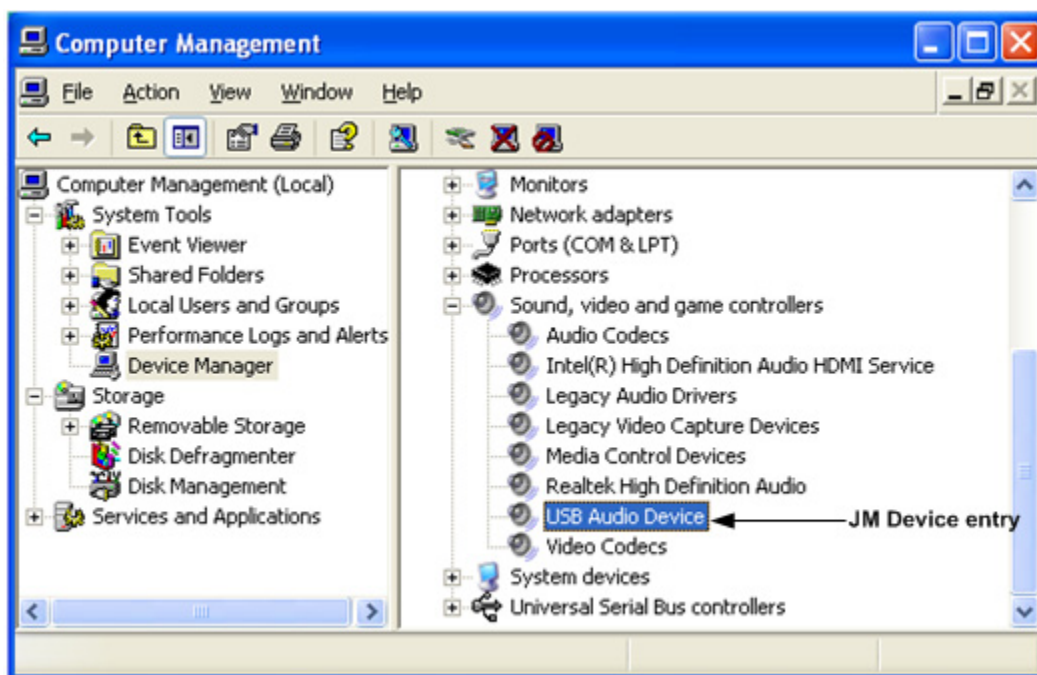

Figure G-5. Device manager dialog
3. To verify whether the USB Audio Device has been installed properly or not, you must see the device entry in the device manager as shown in Figure G-5.